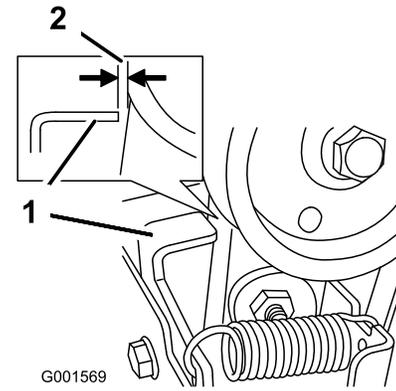

Figure 50
3. With the auger/impeller lever disengaged, ensure that the gap between the auger clutch assembly and the tab is 1.5 mm (1/16 inch) (Figure 50).